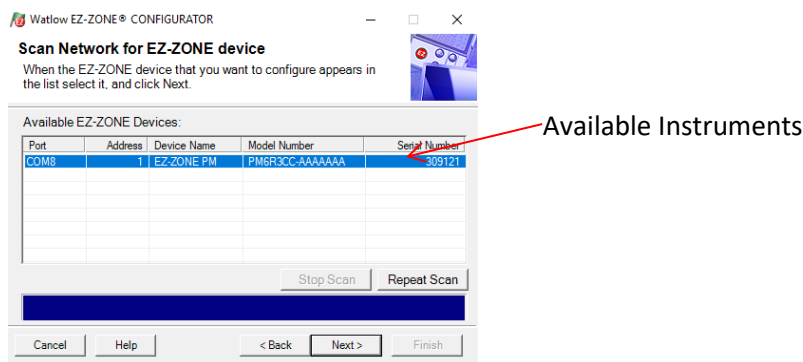

Figure 49: Available EZ-Zone Devices
6. The next window contains the list of available devices. Select the only item from the list of **Available EZ-ZONE Devices**, as shown in Figure 49.